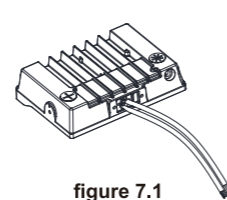

figure 7.1
Step 1: Take the lamp out of package;(figure 7.1)